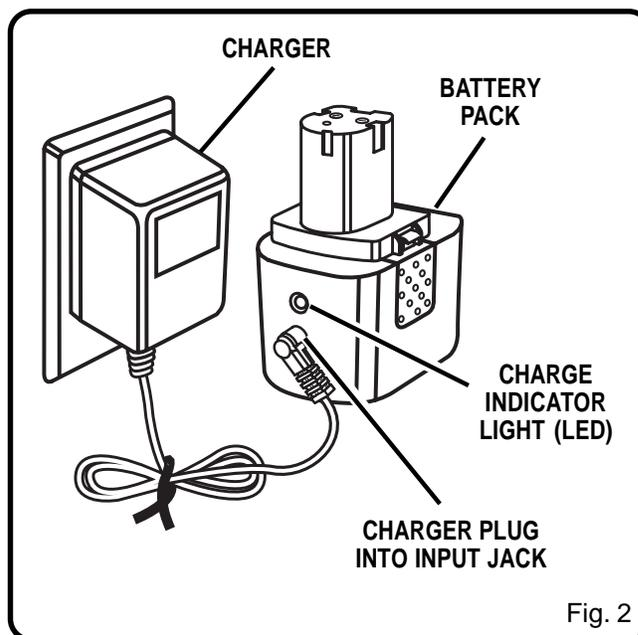

Fig. 2
See Figure 2.
- Insert charger plug into input jack of battery pack making sure it is properly connected. See Figure 2.